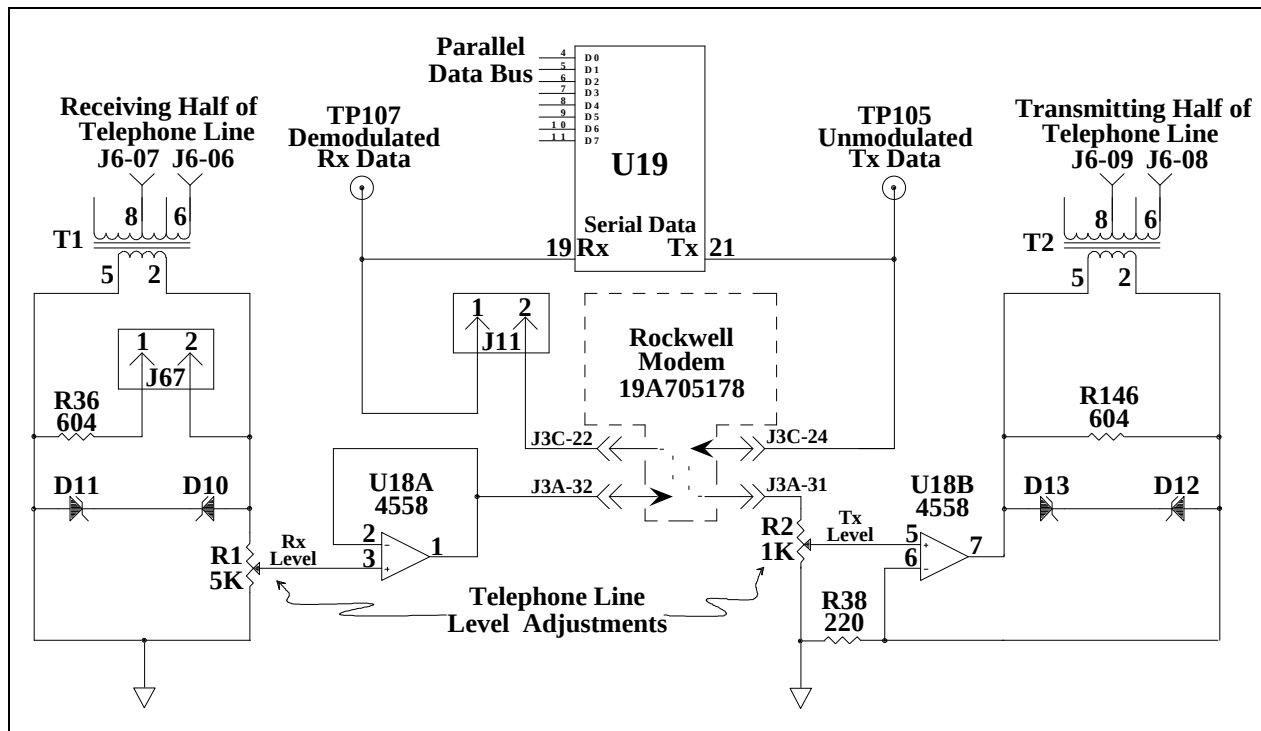

Figure 3 - GETC Phone Line Level Adjustments
- Adjust the receive level by monitoring U18 pin 1 (refer to Figures 3 and 4) and adjusting the receive level potentiometer R1 (located on the GETC Logic Board) for 400 mVpp as measured with an oscilloscope (85 mVrms if using an RMS Voltmeter).